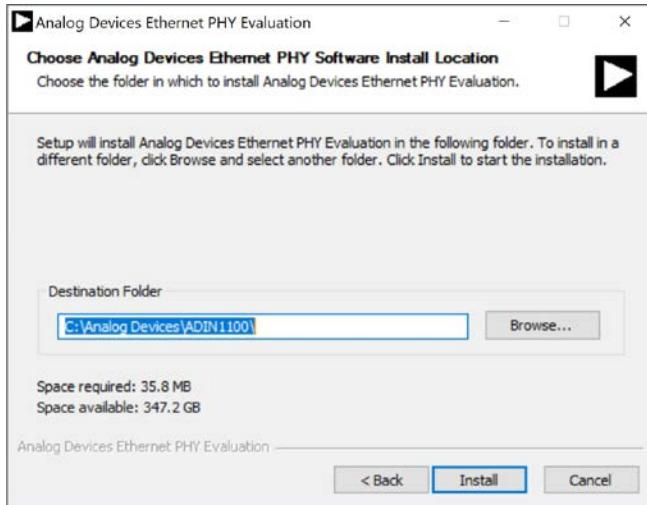

Figure 20. Installation Location
6. Select a location to install the Ethernet PHY software and then click **Install** (see Figure 20).